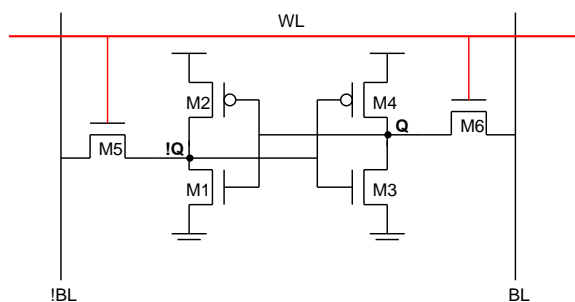

Fig. 11
11. Consider the 6T SRAM cell in Fig. 11. (5%)